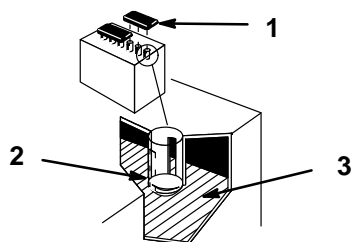

Figure 35
1. Open covers to see into the cells. The electrolyte must be up to the lower part of the tube (Fig. 35). Do not allow the electrolyte to get below the plates. (Fig. 35).
2. Lift off the filler caps (Fig. 35).
3. Slowly pour distilled water into each battery cell until the level is up to the lower part of the tube (Fig. 35).